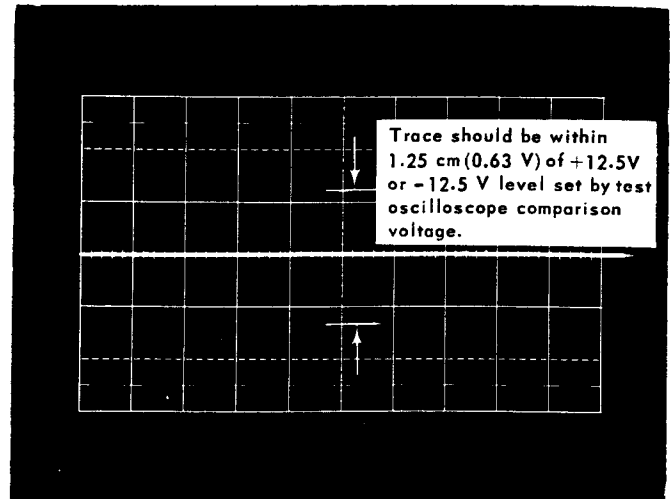

Fig. 8. Typical test oscilloscope display for checking regulation of $+12.5$ -volt and -12.5 -volt supplies.
f. Check—Test oscilloscope trace within ± 1.25 cm of the center horizontal graticule line (see Fig. 8).
- e. Check—Test oscilloscope trace within ± 1.25 cm of the center horizontal graticule line (see Fig. 8).